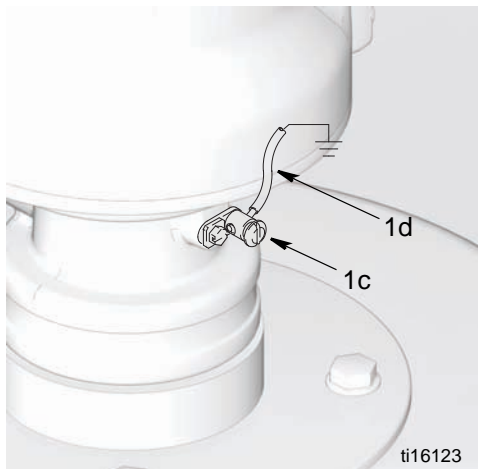

FIG. 1
- *Pump:* Use a ground wire and clamp as shown in FIG. 1.